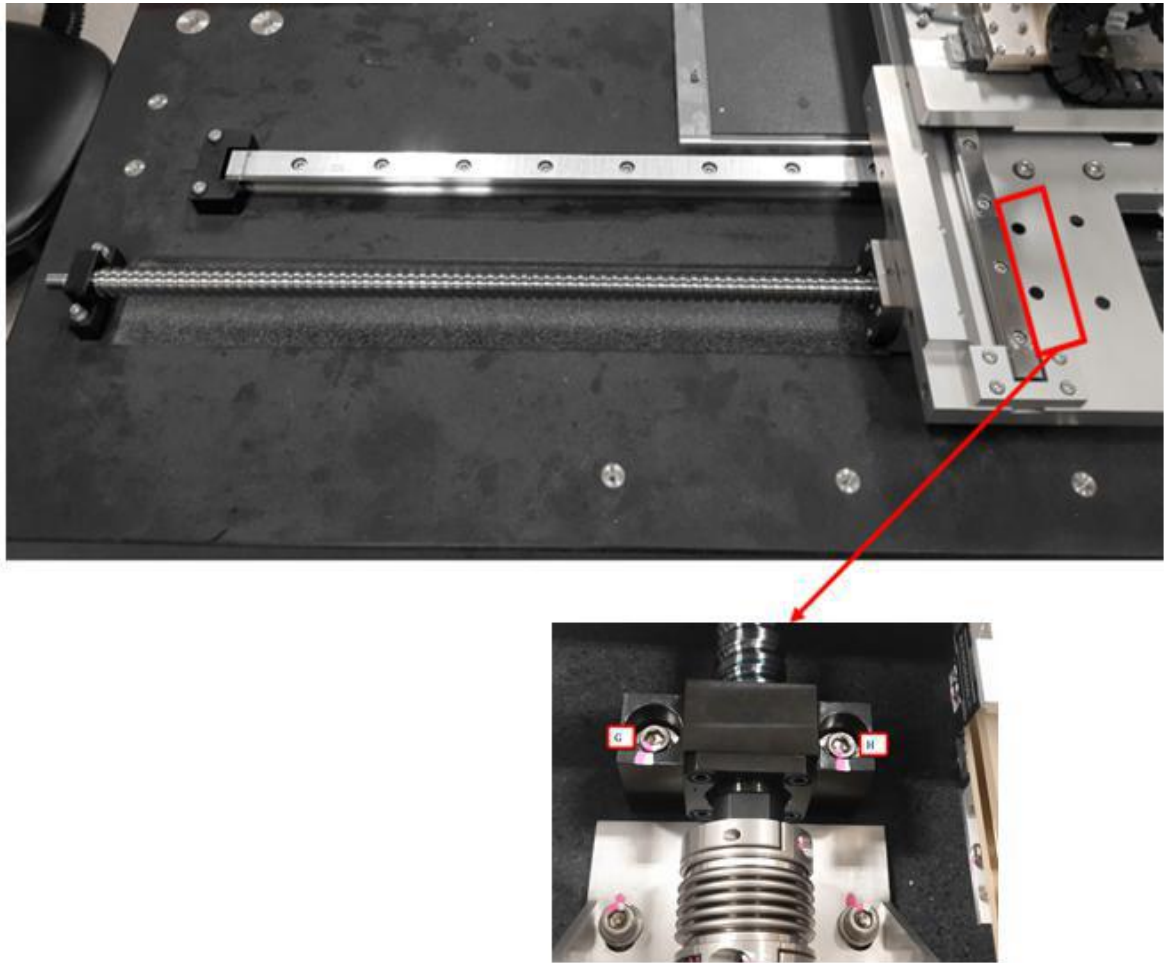

Figure 46 End Bearing Support (Front)
50. Move the stage to the minimum hard stop and tighten screw “G” & “H” as shown in the Figure 46.